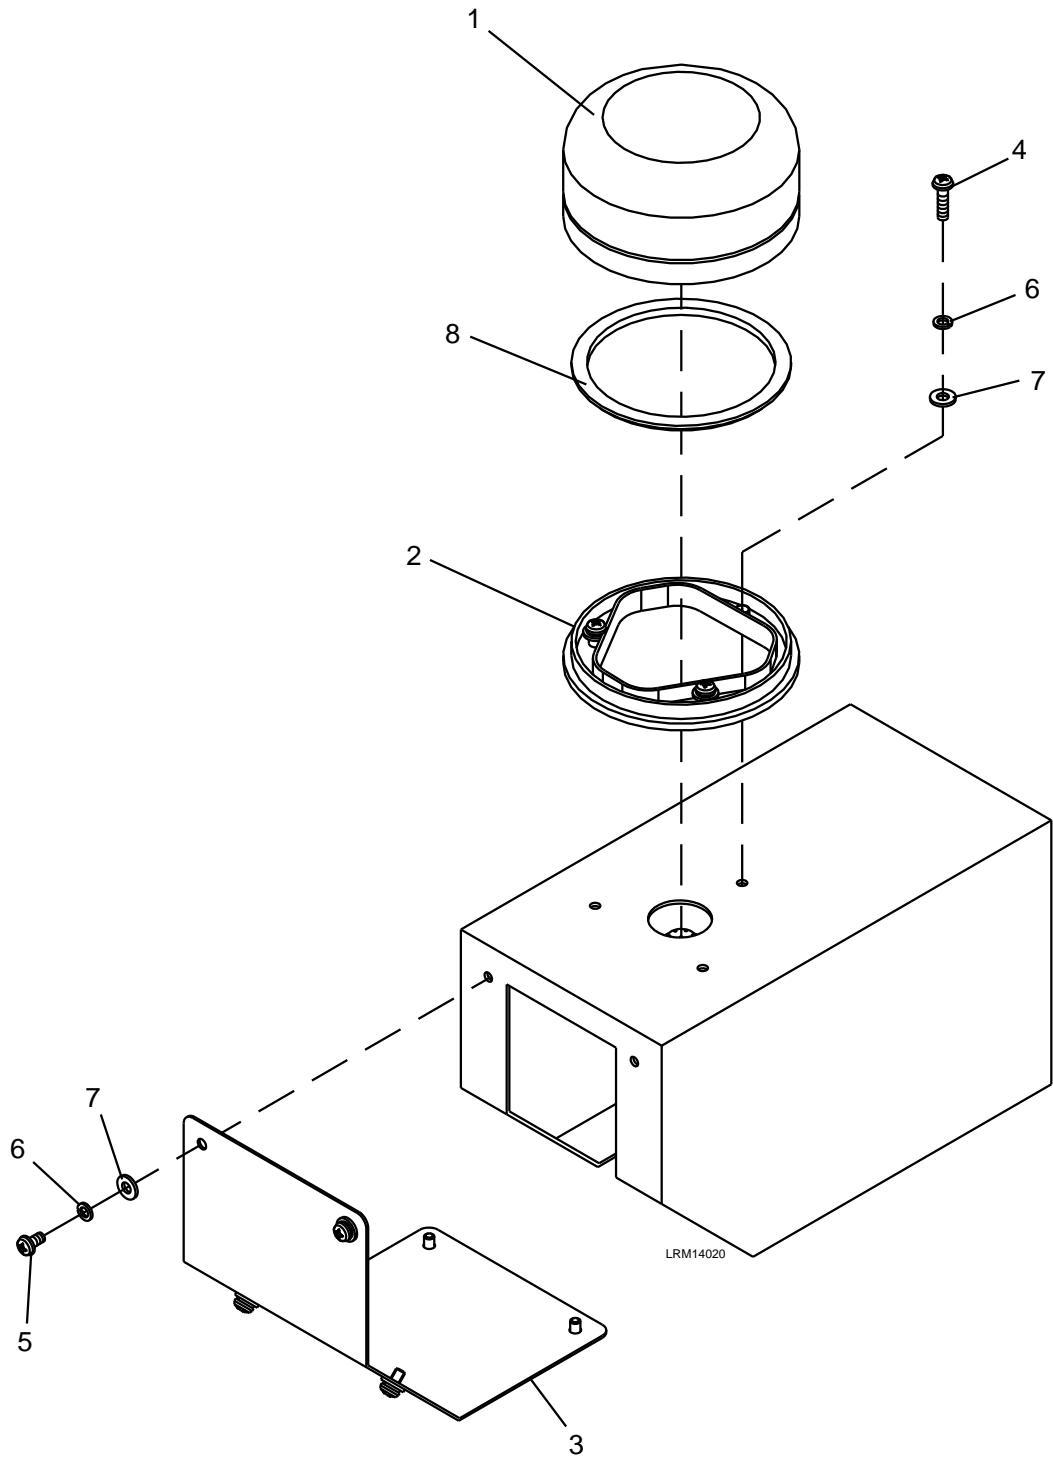

Figure 8-9: Global Positioning System (GPS) Antenna
1. Remove the six M4 x 8 screws (5), M4 lock washers (6), and M4 plain washers (7). See Figure 8-9.
2. Remove the cover (3).